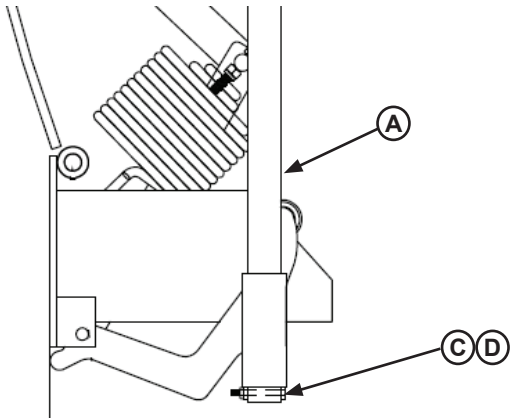
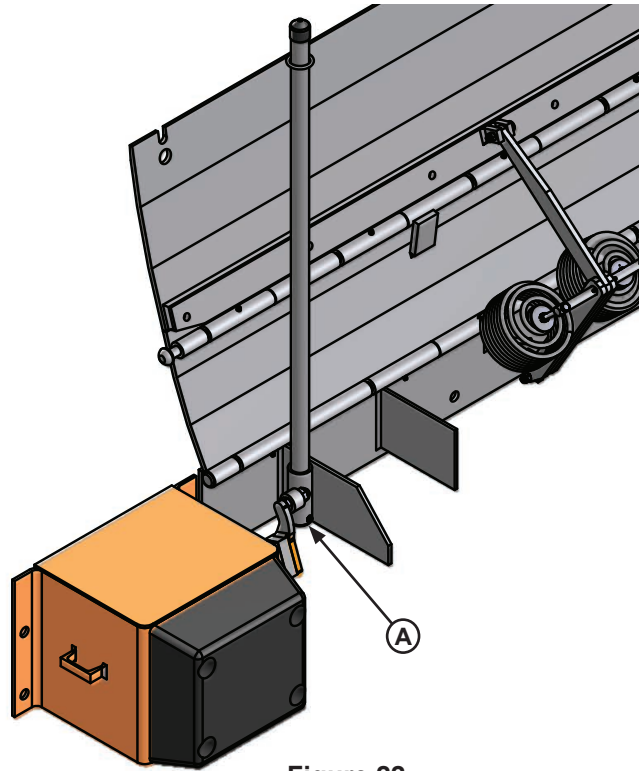

Figure 21
Figure 22
Put handle (A) into maintenance prop position (B) by removing bolt (C) and locknut (D) at base of handle assembly as shown in Figure 21. Pull handle out of roller arm assembly and place into maintenance prop receiver (B). See Figure 22.